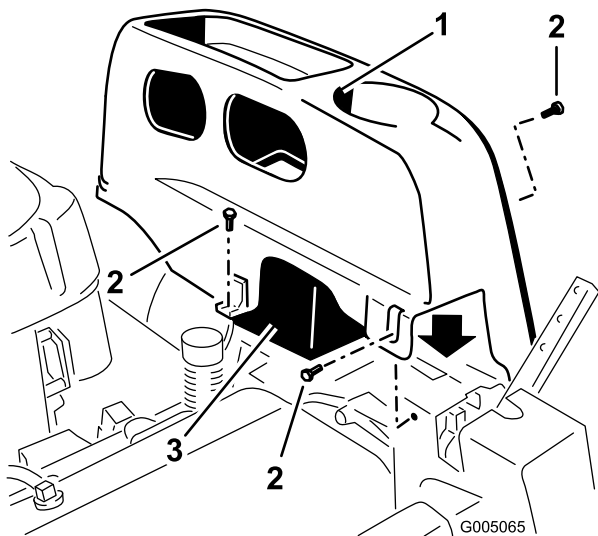

Figure 22
2. Remove the TORX® head fasteners (T25) securing the left cover to the frame as shown in Figure 22.